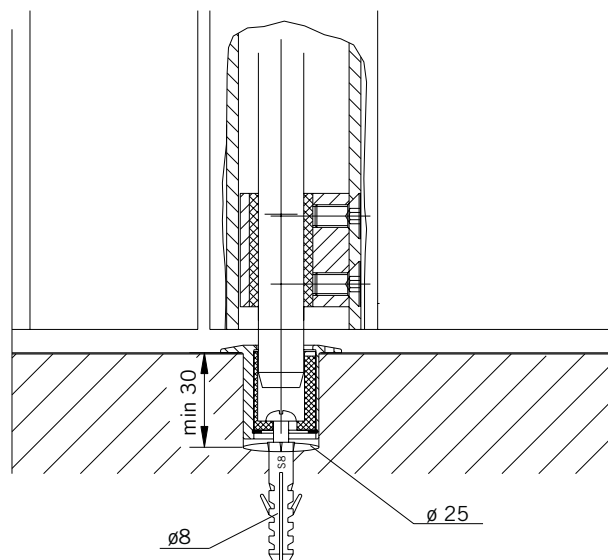

Fig. 14
10.1 Installing eccentric sockets (Fig. 14):